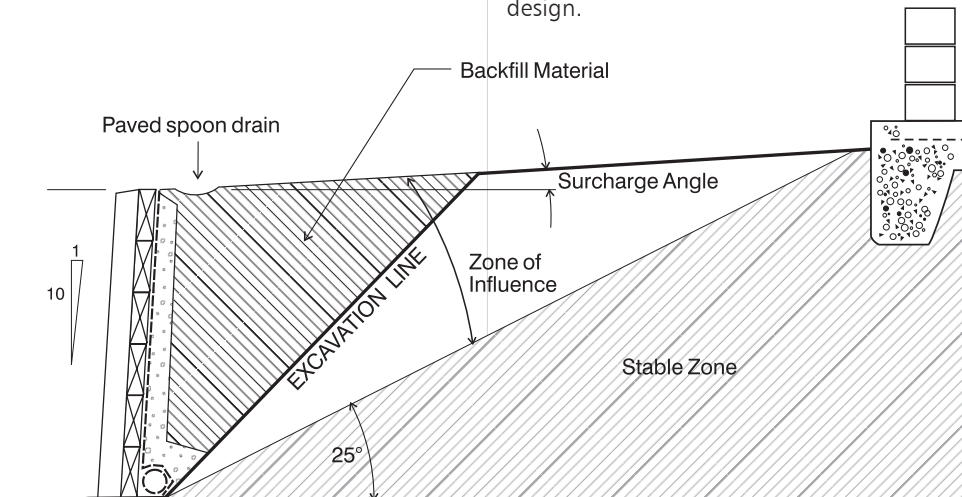

Figure 3 - Stable zone
The horizontal force generated by the vertical load of permanent structures can have significant impact on the performance of retaining structures. Permanent structures include (but are not limited to); buildings, pools, roads, parking areas, water tanks, general storage. If any such structures will impact within the zone of influence, as per Figure 3, the retaining wall design should be referred to a structural/geotechnical engineer. Fences of lightweight materials (timber, metal etc) constructed on or above the wall do not impact on the design of the walls.
A retaining structure constructed within the zone of influence of another retaining structure will apply additional loads to the lower wall. **Terraced walls require specific design by structural / geotechnical engineers.** This includes installing a new retaining wall above or below an existing retaining structure. The attached tables should not be used for designing any retaining structure with an existing or future retaining structure above or below such that the upper wall impacts within the zone of influence of the lower, as per Figure 3.
If a typical house foundation is located within the stable zone (shown shaded in Figure 3) then it is outside the zone of influence and its presence will have a negligible effect on the stability of the wall. If this is the case, then the accompanying tables are valid, if otherwise refer to a structural/geotechnical engineer for a specific design.
- At the setting out stage (before excavation) check that the structures above the wall, such as house foundations, are sufficiently remote not to be affected. Refer to Figure 3 for these limitations.